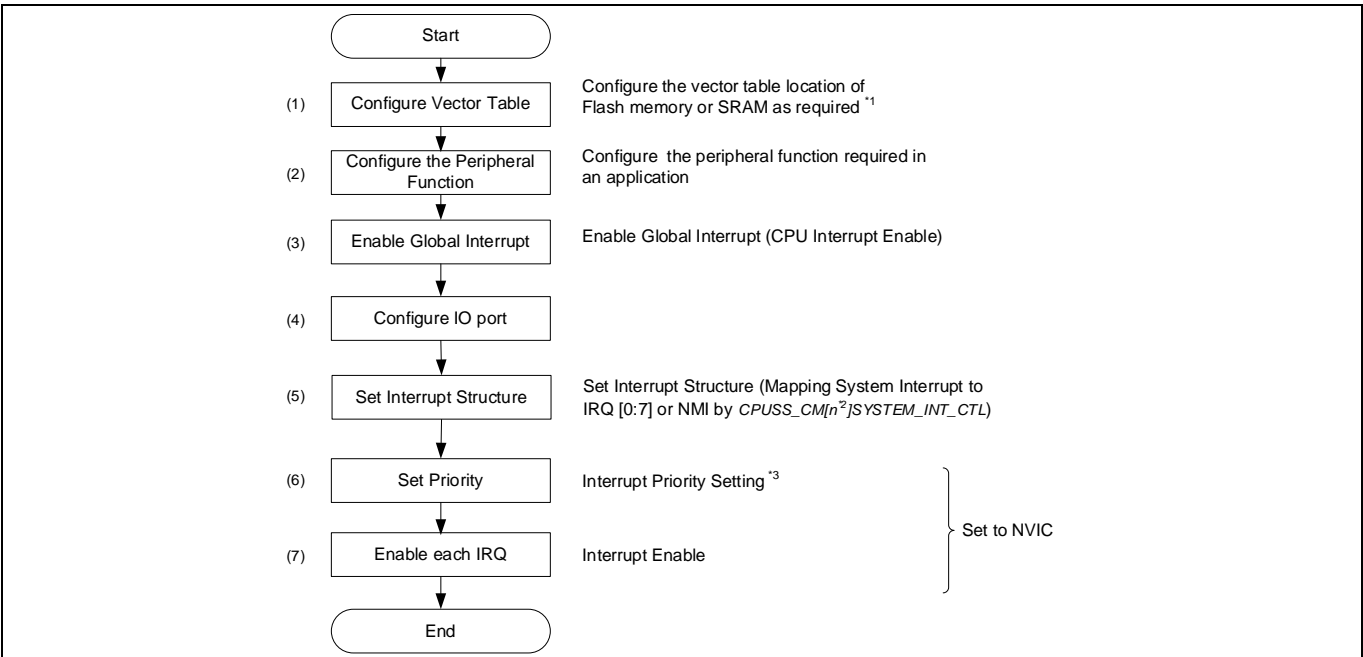

Figure 4 Interrupt initial setting flow
You can configure the configuration part according to your system. Figure 4 shows the initializing interrupts.
*Note: (*2) “n” in Figure 4 indicates 0, 4. For example, CPUSS_CM4_SYSTEM_INT_CTL shows system interrupt control register for CM4. The CYT2 series have CPUSS_CM4_SYSTEM_INT_CTL and CPUSS_CM0_SYSTEM_INT_CTL registers. The CYT3 and CYT4 series have CPUSS_CM7_0_SYSTEM_INT_CTL, CPUSS_CM7_1_SYSTEM_INT_CTL (only CYT4 series) and CPUSS_CM0_SYSTEM_INT_CTL registers. See the registers TRM [\[2\]](#) for more information.*